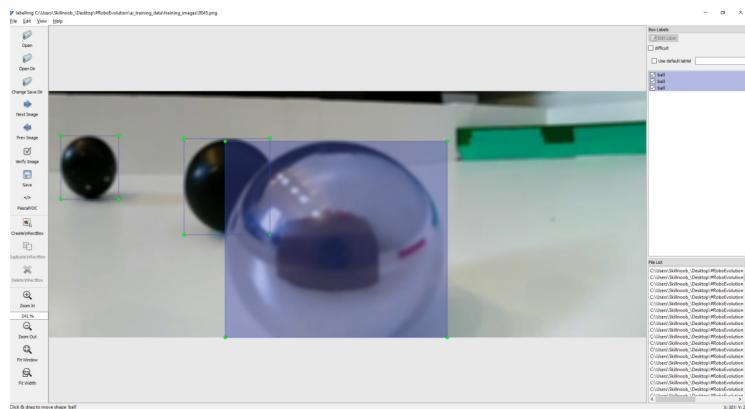

Figure 10: The labeling process with LabelImg
- Began labeling the first 130 images with LabelImg, as seen in Fig. 10